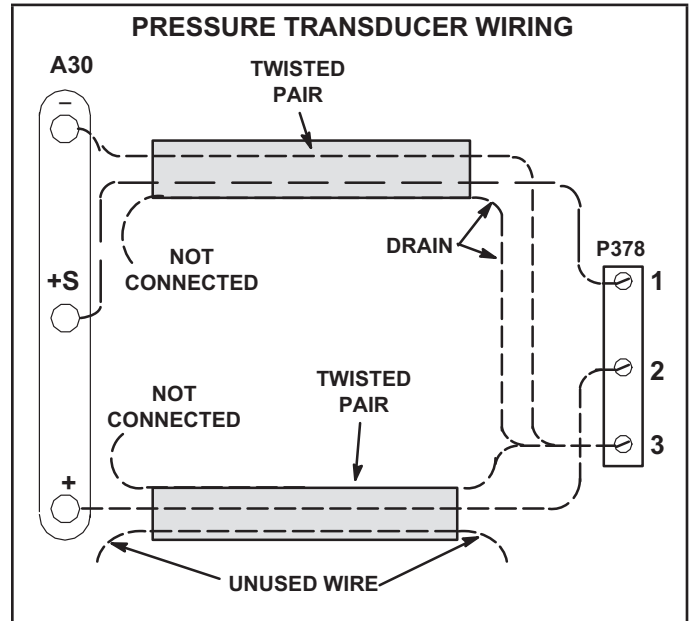

FIGURE 38
- 2 - Two twisted pairs of shielded cable must be used to connect the pressure transducer. See FIGURE 38. J/P378 connector is hanging in the control box.